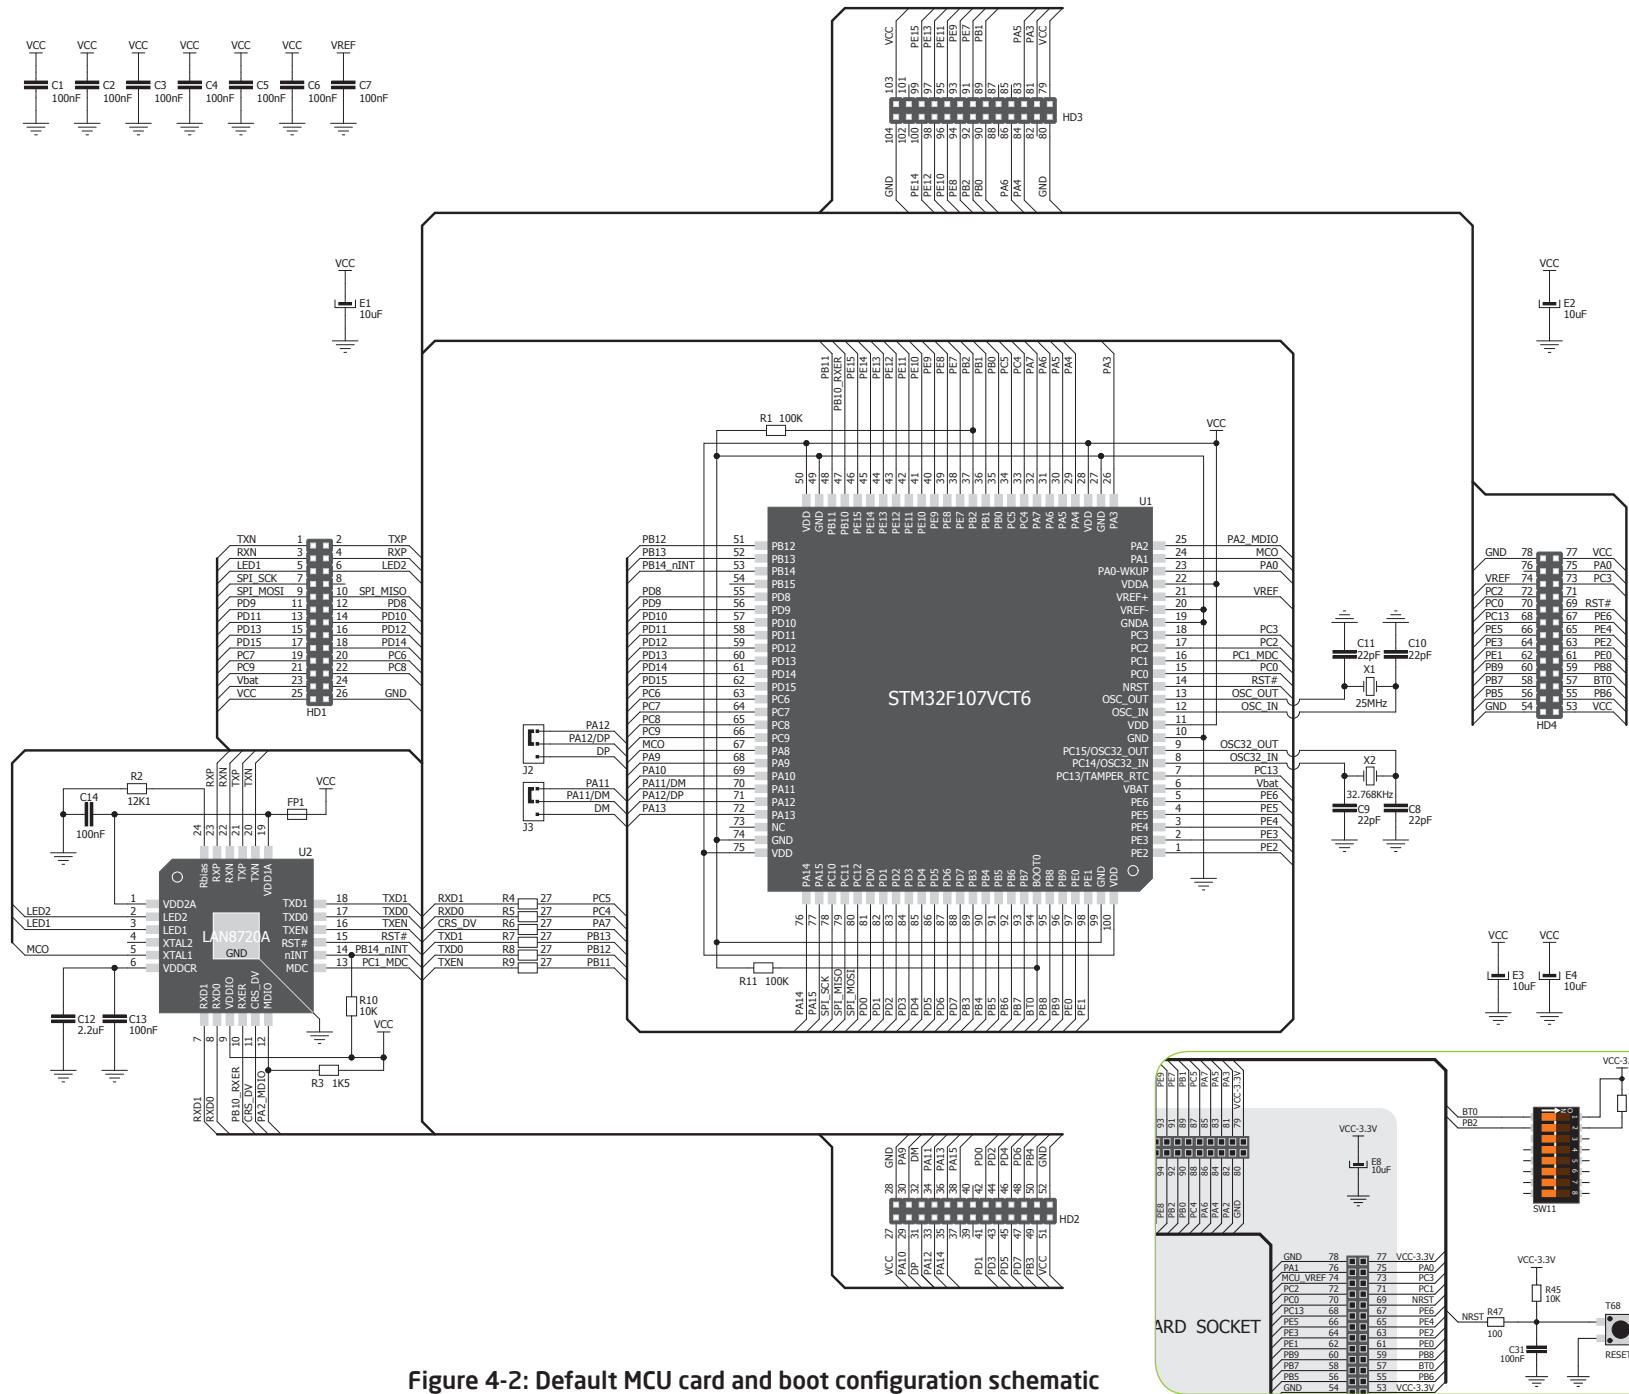

Figure 4-2: Default MCU card and boot configuration schematic
- 5 With STM32 Cortex™-M3 and Cortex™-M4 microcontrollers you have the ability to select specific boot space (User flash memory, system memory or embedded SRAM), depending on the boot pins value (BT0, PB2). Boot pins are set to ground (0) through 100K resistors. In order to set BT0 and PB2 pins to VCC (1), you must push **SW11.1** and **SW11.2** DIP switches to **ON** position, **Figure 4-2**. The values on the BOOT pins are latched on the fourth rising edge of system clock after a reset.